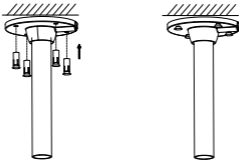

Figure 2-14 Install the Pendent Cap
- Fix the pendent mount bracket in the ceiling and tighten the screws, as shown in Figure 2-14.